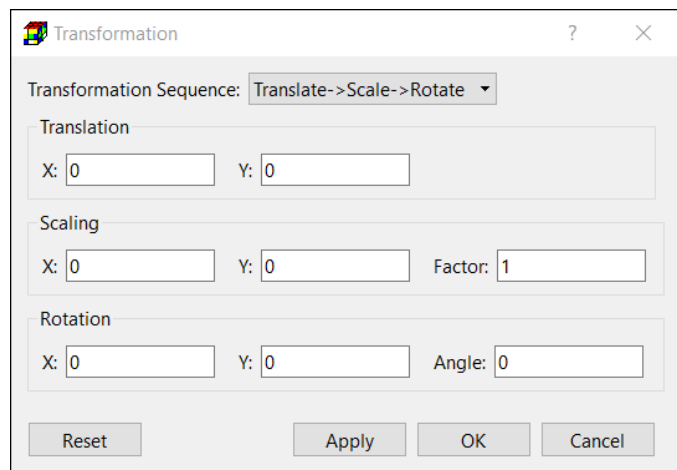

Figure 9. The Transformation dialog box
- When using the Cartesian coordinate system, the shapefile cannot be projected. However, you can transform the coordinates of all points in the shapefile by using the Transformation dialog box (Figure 9). The options in the dialog box are:
the shapefile by using the Transformation dialog box (Figure 9). The options in the dialog box are: